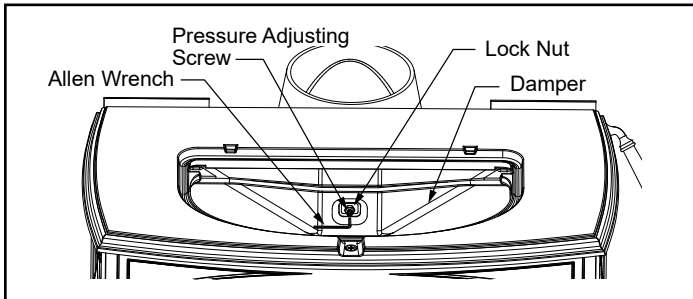

Figure 44 - Adjust the damper with the Allen wrench.
1. Remove the griddle. Loosen the lock nut at the center of the damper. (Figure 44)